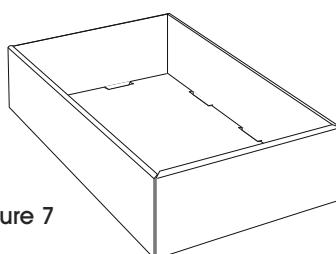

Figure 7
10. Box is assembled. (See Figure 7)